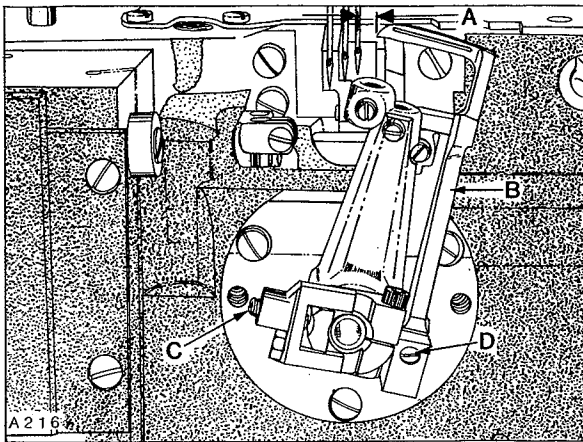
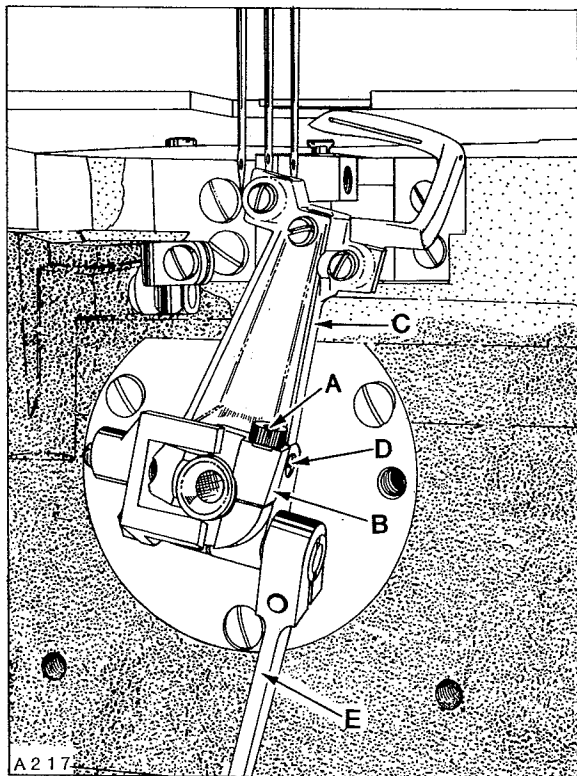

Fig. 10
Fig. 11
If not previously done, insert a new set of needles; type and size specified. With looper holder at EXTREME right end of travel, distance from centerline of RIGHT needle to point of RIGHT looper should be dimension (A, Fig. 10); see chart. Adjustment can be made by pulling release lever (B) down and loosening screw (A, Fig. 11) in stop collar (B). Apply pressure against the upper portion of looper holder (C) to the LEFT while turning screw (D) in looper holder clockwise to increase looper gauge or counterclockwise to decrease. Applicable looper gauge can be used advantageously in making this adjustment.
Continue to apply pressure against upper portion of looper to the LEFT while turning stop collar (B) to its EXTREME CLOCKWISE position and tighten screw (A) securely. Push up release lever (E) to lock looper holder in position. Adjust screw (C, Fig. 10) which incorporates a spring plunger, against the recess in cam of stop collar as required to attain the following conditions:
In locked position, the release lever should be approximately in line with middle looper as viewed from the right side of looper holder. Adjustment can be made by loosening screw (D, Fig. 10), reposition release lever as required and retighten screw.
Loopers must also be set so, as they travel to the left behind the needles, NOT to touch, but with a MAXIMUM clearance of .002 inch (.051mm). Adjustment can be made by pulling release lever down, loosening screw (A, Fig. 11) in stop collar (B) allowing looper holder to be moved forward or rearward on its shaft, as required. Apply pressure against upper portion of looper holder to the LEFT while turning stop collar (B) to its EXTREME CLOCKWISE position and tighten screw (A) securely and push release lever up in locking position. RECHECK looper gauge.